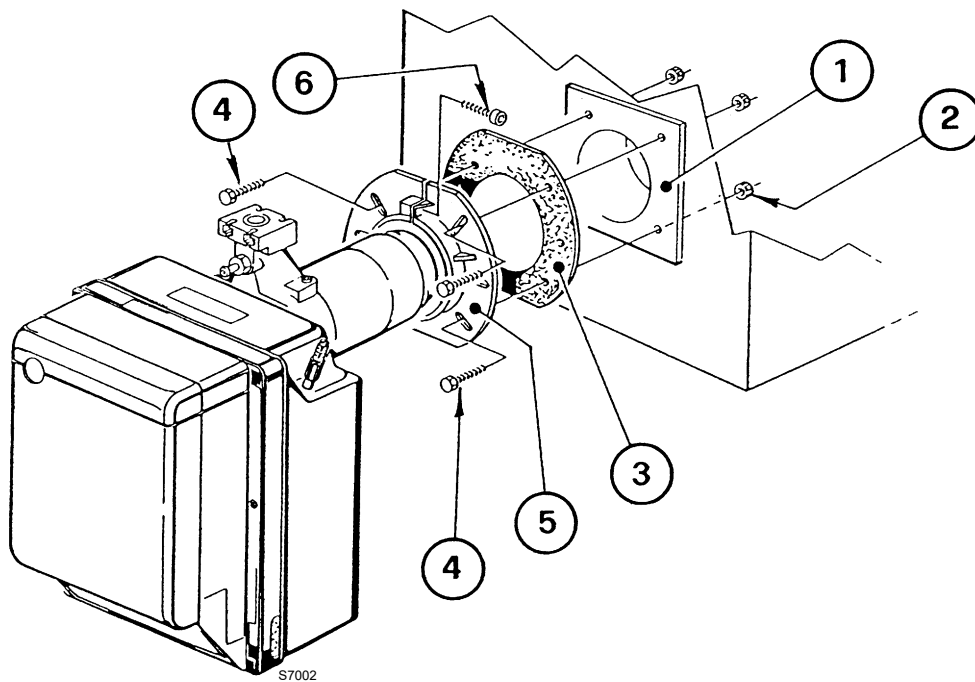

Fig. 10
- Fix the flange 5) to the door of the boiler 1)(Fig. 10) placing the insulating gasket 3) in between using the screws 4) and (if necessary) the nuts 2), but keeping one of the two top screws 4) loose.